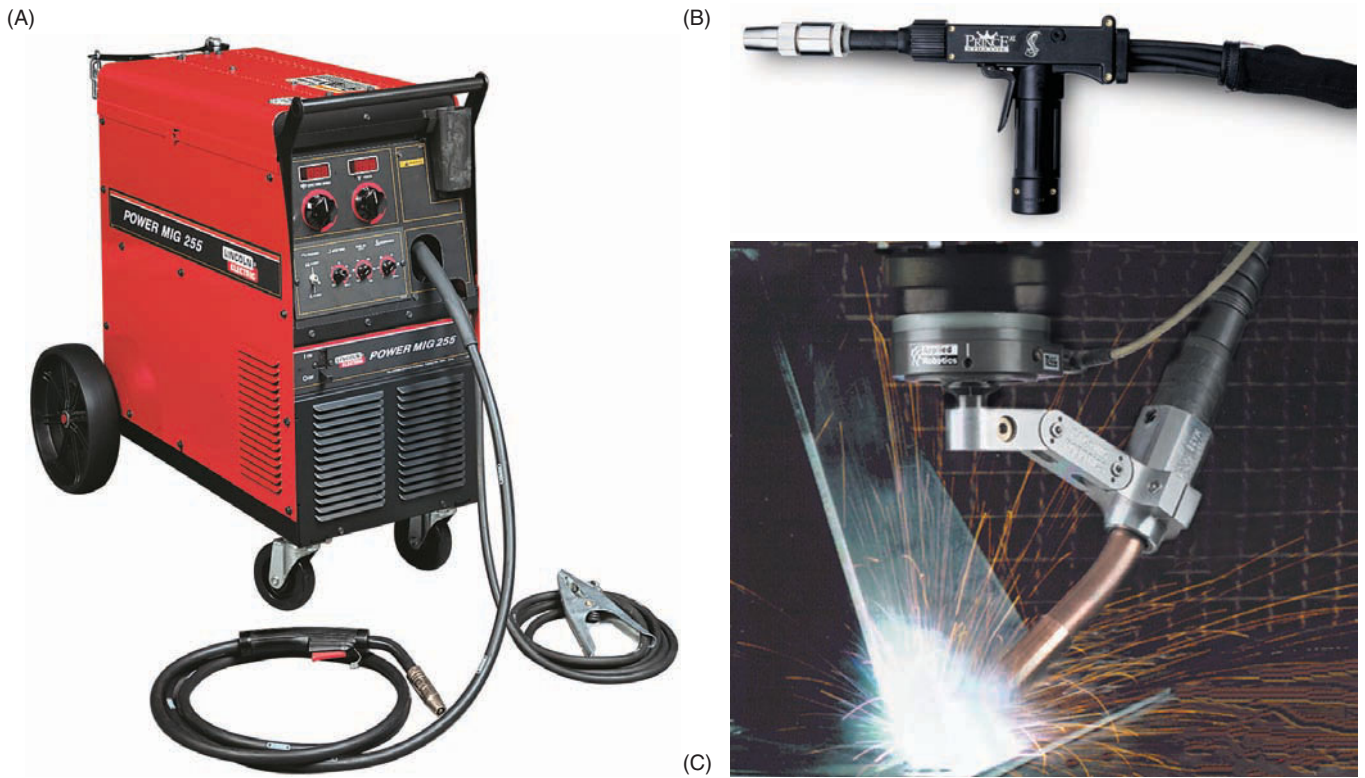

Figure 1.2 GMAW equipment
The GMAW process may be performed as semiautomatic (SA), machine (ME), or automatic (AU) welding, Table 1.1. The GMA welding process is commonly performed as a semiautomatic process and is often mistakenly referred to as “semiautomatic welding.” Equipment is available to perform most of the wire-feed processes semiautomatically, and the GMAW process can be fully automated. Robotic arc welding often uses GMAW because of the adaptability of the process in any position, Figure 1.2.